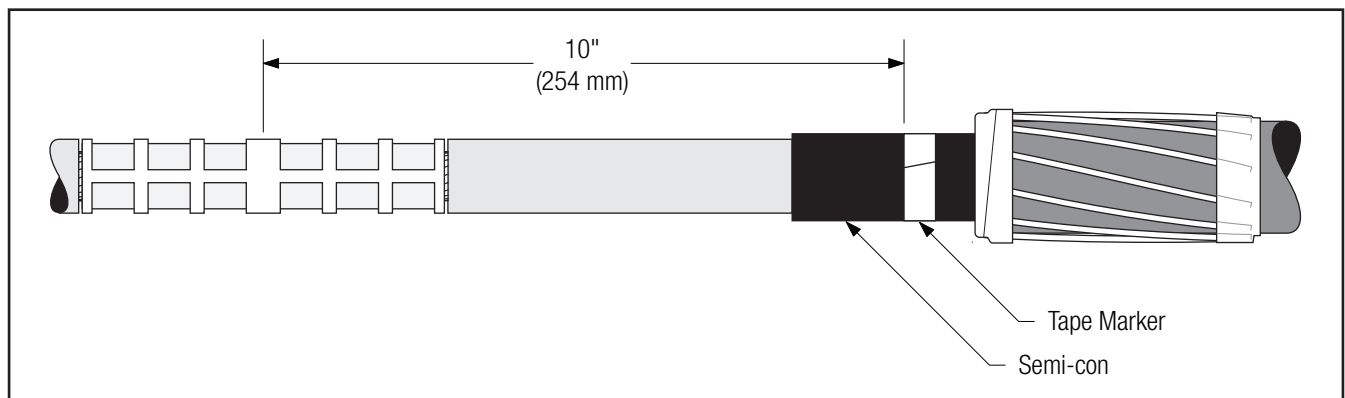

Figure 12
- 4.1 Apply a tape marker to semi-con insulation shield on cable which does not contain splice. Measure 10" (254 mm) from center of connector (*Figure 12*).